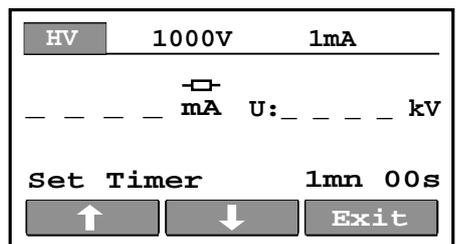

Fig. 7. Timer value selection menu
- Duration of the test (fig. 7)